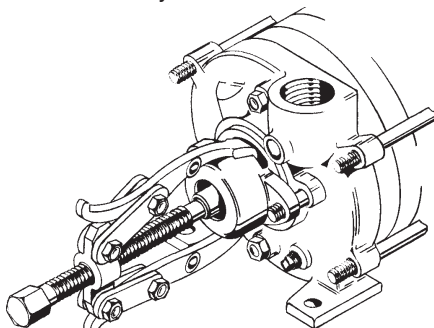

Figure 4-1
- The bearing arm (#3) may now be removed. A gear puller may be necessary.(refer to figure 4-1) The outboard ball bearing (#24) should now be removed. A gear puller will have to be used for this operation. If the bearing can be removed too easily, a worn bearing surface may be indicated. Replace the shaft and bearing as necessary before reassembly.